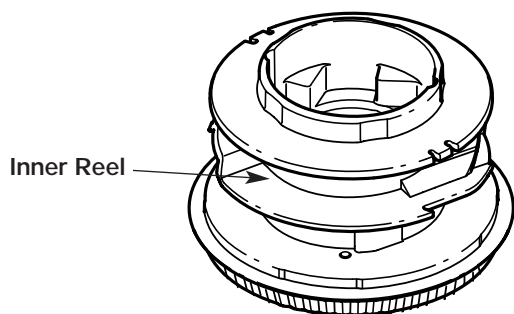

Fig. 50
4. Remove any existing line from the inner reel before cleaning. Remove any debris or grass from the knob, spring, inner reel and foam seal. Wash the inner reel with warm soapy water (Fig. 50).